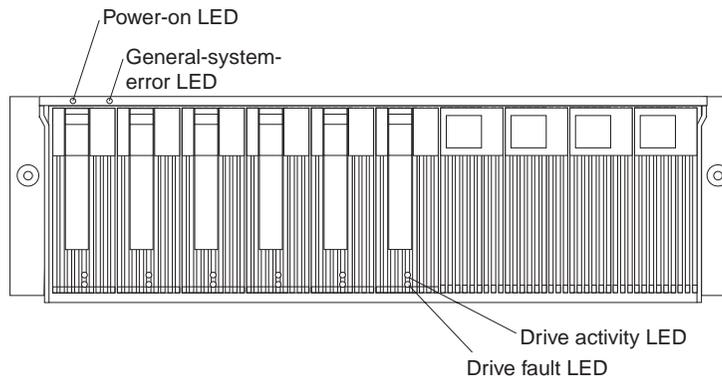

Figure 6. Storage server LEDs (front)
- Figure 6
Each drive CRU has two LEDs, which indicate the status for that particular drive. For information about the drive LED operating states and descriptions, see Figure 6 on page 29 and Table 3 on page 30.